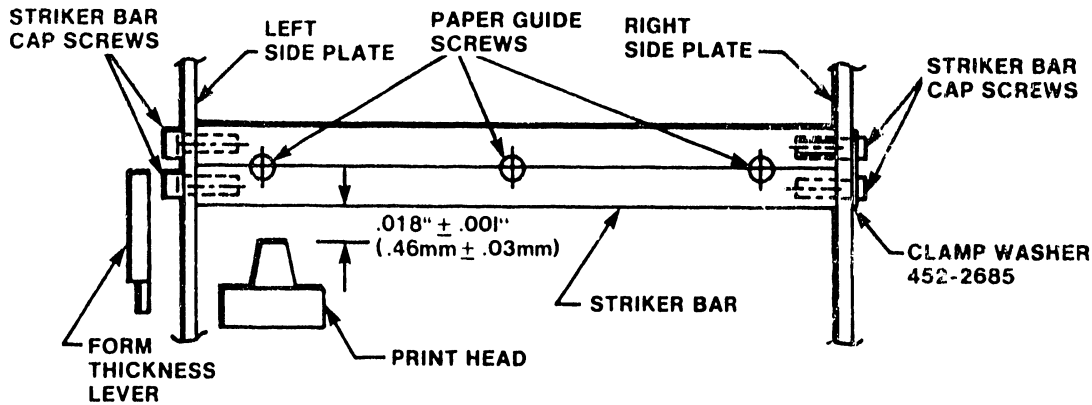

Figure 5-2 Print Head to Striker Bar Clearance
- a. Clean the front edge of the striker bar shown in Figure 5-2.
- b. Set the forms thickness lever shown in Figure 5-2 to position 1.
- b. Set the forms thickness lever, shown in Figure 5-2 to position 1.
- c. Using a  $9/64"$  Allen wrench, loosen the two cap screws located at each end of the striker bar. See Figure 5-2 for screw location. Also loosen the three screws located on the top of the striker bar.